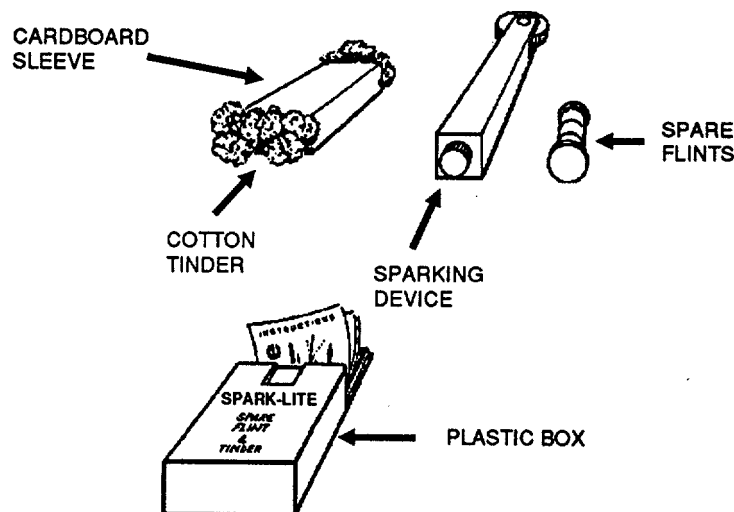

Figure 2-15. Fire Starter, Spark Lite
- h. Fire Starter, Spark Lite. The Spark Lite fire starter (See Figure 2-15) comes in a plastic box containing a sparking device, treated cotton tinder, extra flints and instructions.
- (1) Assemble tinder and other fire-building material (see your survival manual).
- (2) Fluff the end of the treated cotton wad.
- (3) Using the thumb and forefinger with the sparking device, spin the sparking wheel toward the thumb.
- (4) Keep making sparks until the treated cotton swab ignites.
- (5) Place the burning wad into the tinder nest and proceed to make a fire.